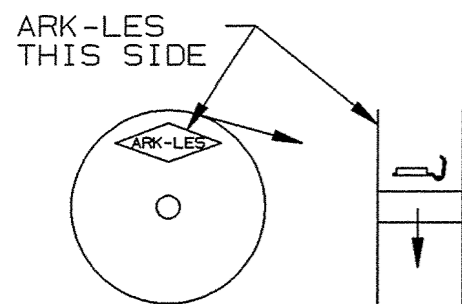

FIGURE 1
5. FOR STANDARD REELING SEE FIGURE 1.